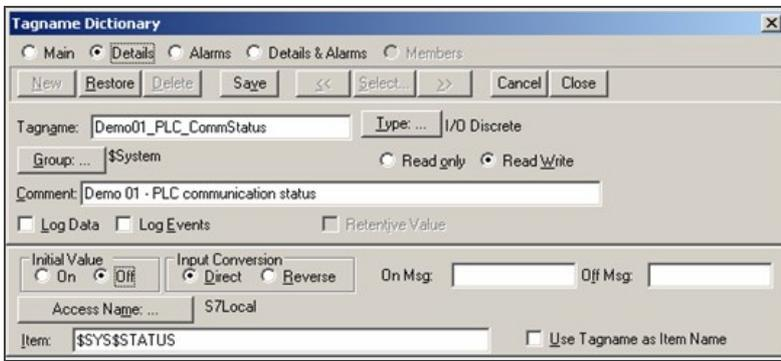

Figure 8: Demo01_PLC_CommStatus Tag Definition
2. Define **Demo01_PLC_CommStatus** as an IO Discrete tag configured with the settings shown in Figure 8 (below).